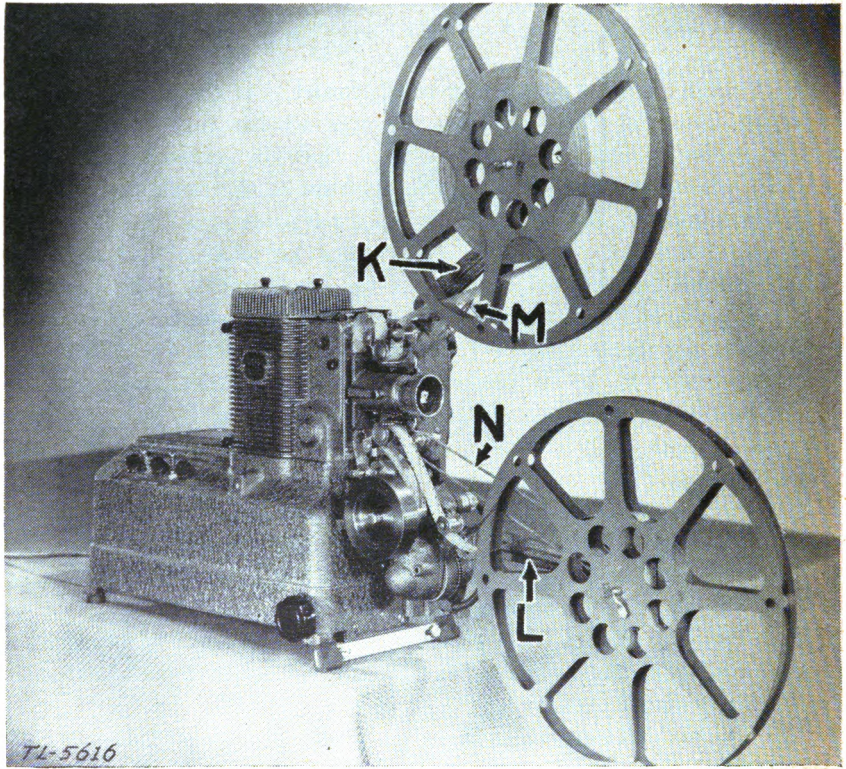

FIGURE 5.—Ampro YA projector ready for operation.
- (1) *Ampro YA* (fig. 5).—(a) Remove the projector from the case.